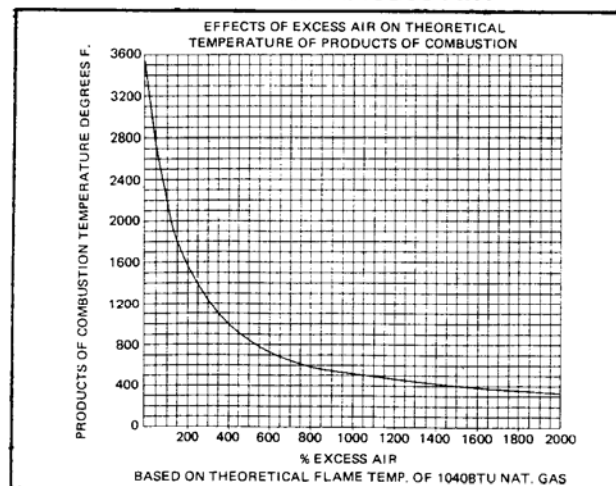

Fig. 3 – Chart No. GY834
1. Determine the % of excess air, using Figure 3, required for the desired temperature of the products of combustion.
5. Determine the minimum temperature of the products of combustion from Figure 3. If either the minimum capacity or minimum temperature is less than required, the burner selection is correct. If not, repeat the process with a larger or smaller burner as required.